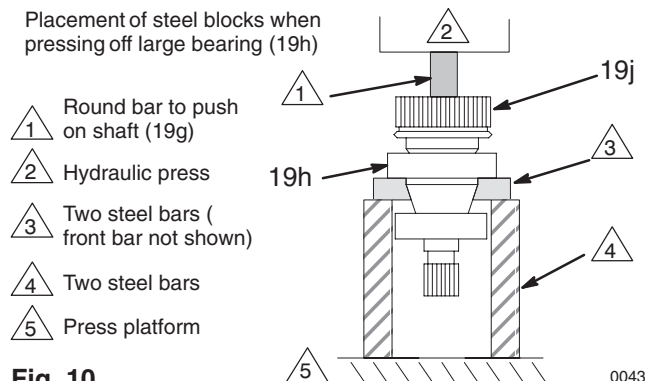

Fig. 10
4. **Using a hydraulic press**, place pieces of steel bar stock on the inner race of the large bearing (19h) and press the shaft through the hub and bearing. Then turn over the shaft and press out the small bearing (19f). See Fig. 10.